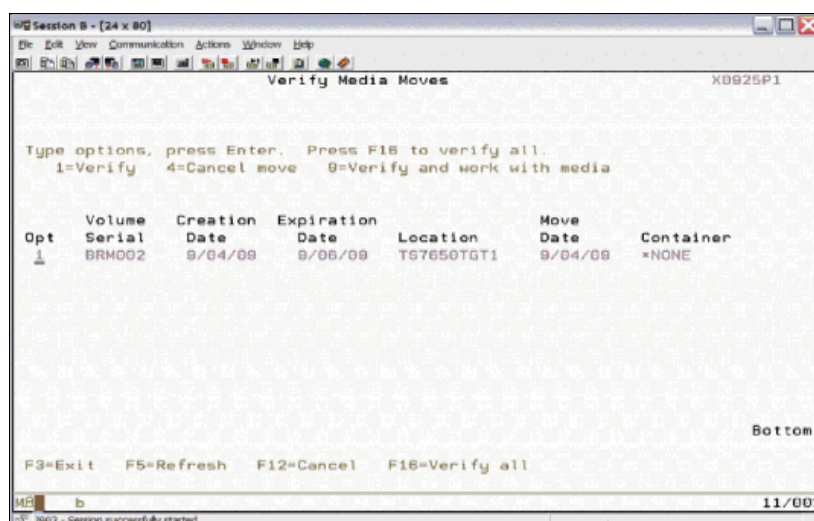

Figure 17-7 Displaying media status
5. Verify the media move on the DR IBM i system, which makes the cartridge available (Figure 17-7). The Location column specifies the name of the target VTL.